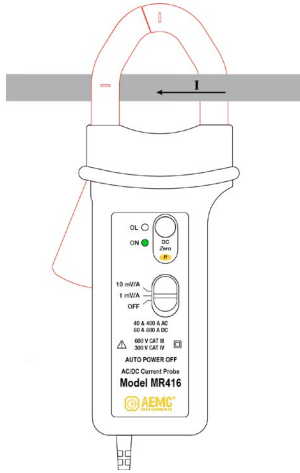

Figure 3 (MR416 shown)
2. Clamp the jaws around the conductor to be measured. Use the centering marks on the jaws to position the clamp around the conductor. If the measurement is for a power calculation, ensure that the arrow on the clamp jaws (see Figure 3) points in the direction of the current flow: